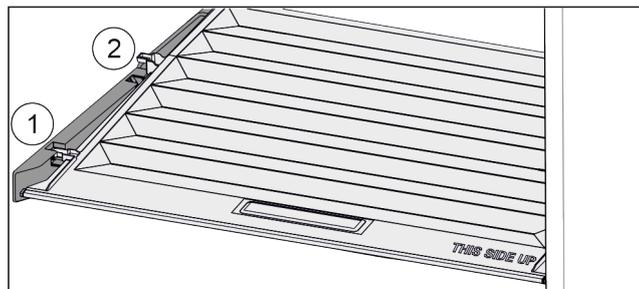

Fig. 32
- ▶ Pull the lid up at the front in the retaining parts to the opening Fig. 32 (1).
- ▶ Lift from the back and pull it up and out Fig. 32 (2).